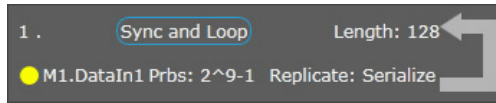

Figure 42 Analyzer setup information
- e The **Analyzer** block should now display the setup information as shown in Figure 42 on page -92.